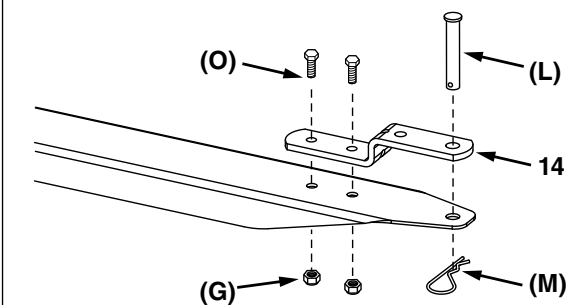

Figure 17
STEP 18 (SEE FIGURE 17): Attach the hitch bracket (14) to the draw bar tongue using two 5/16" x 3/4" hex bolts (O) and 5/16" nylock nuts (G). Install the hitch pin (L) through the holes in the hitch bracket (L) and the draw bar tongue and secure with a 1/8" hair cotter pin (M).